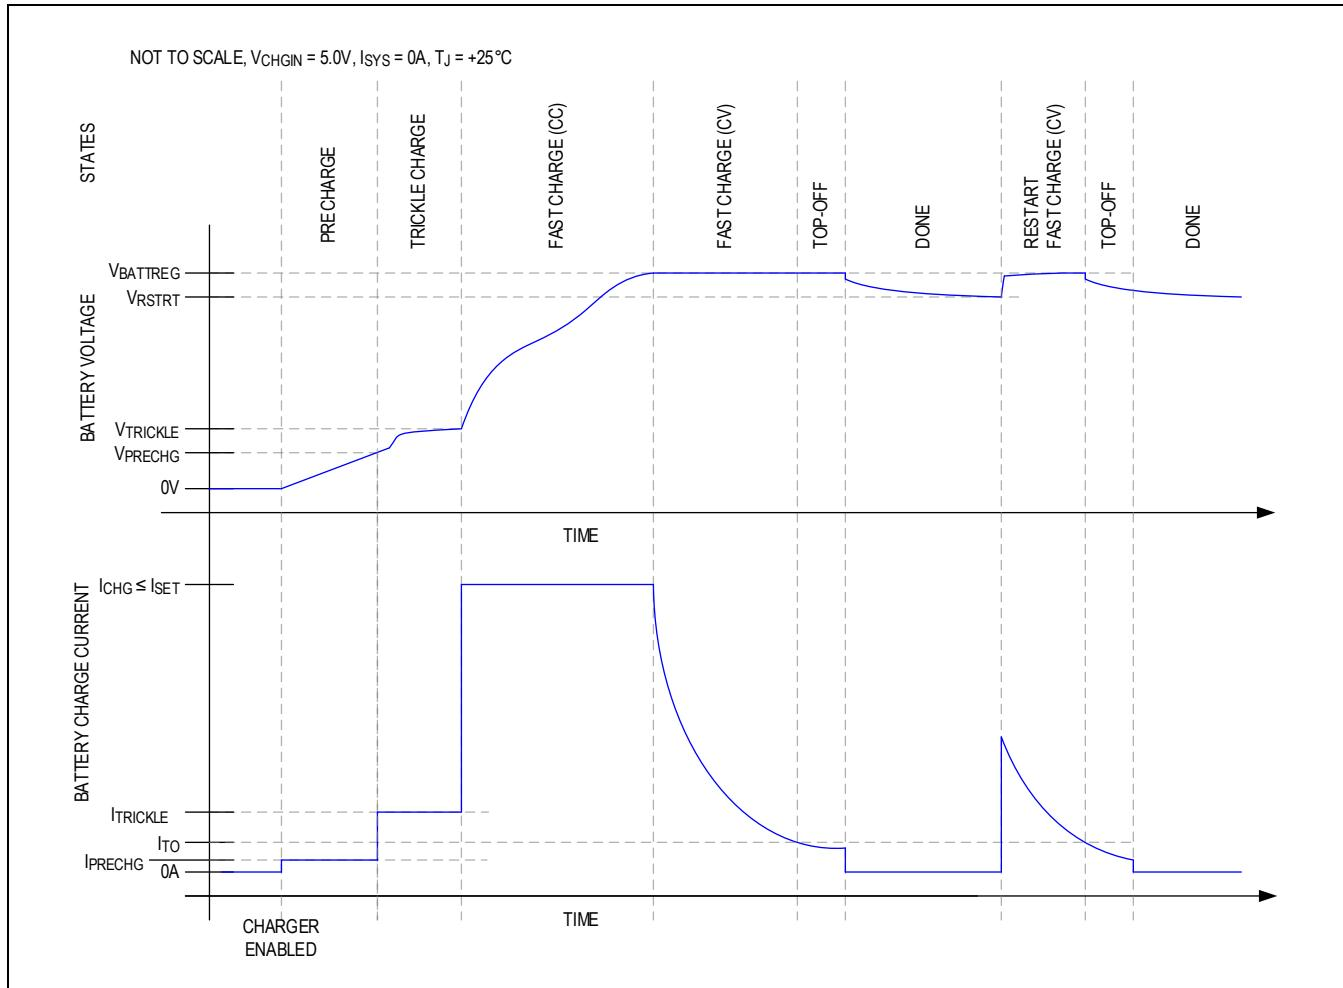
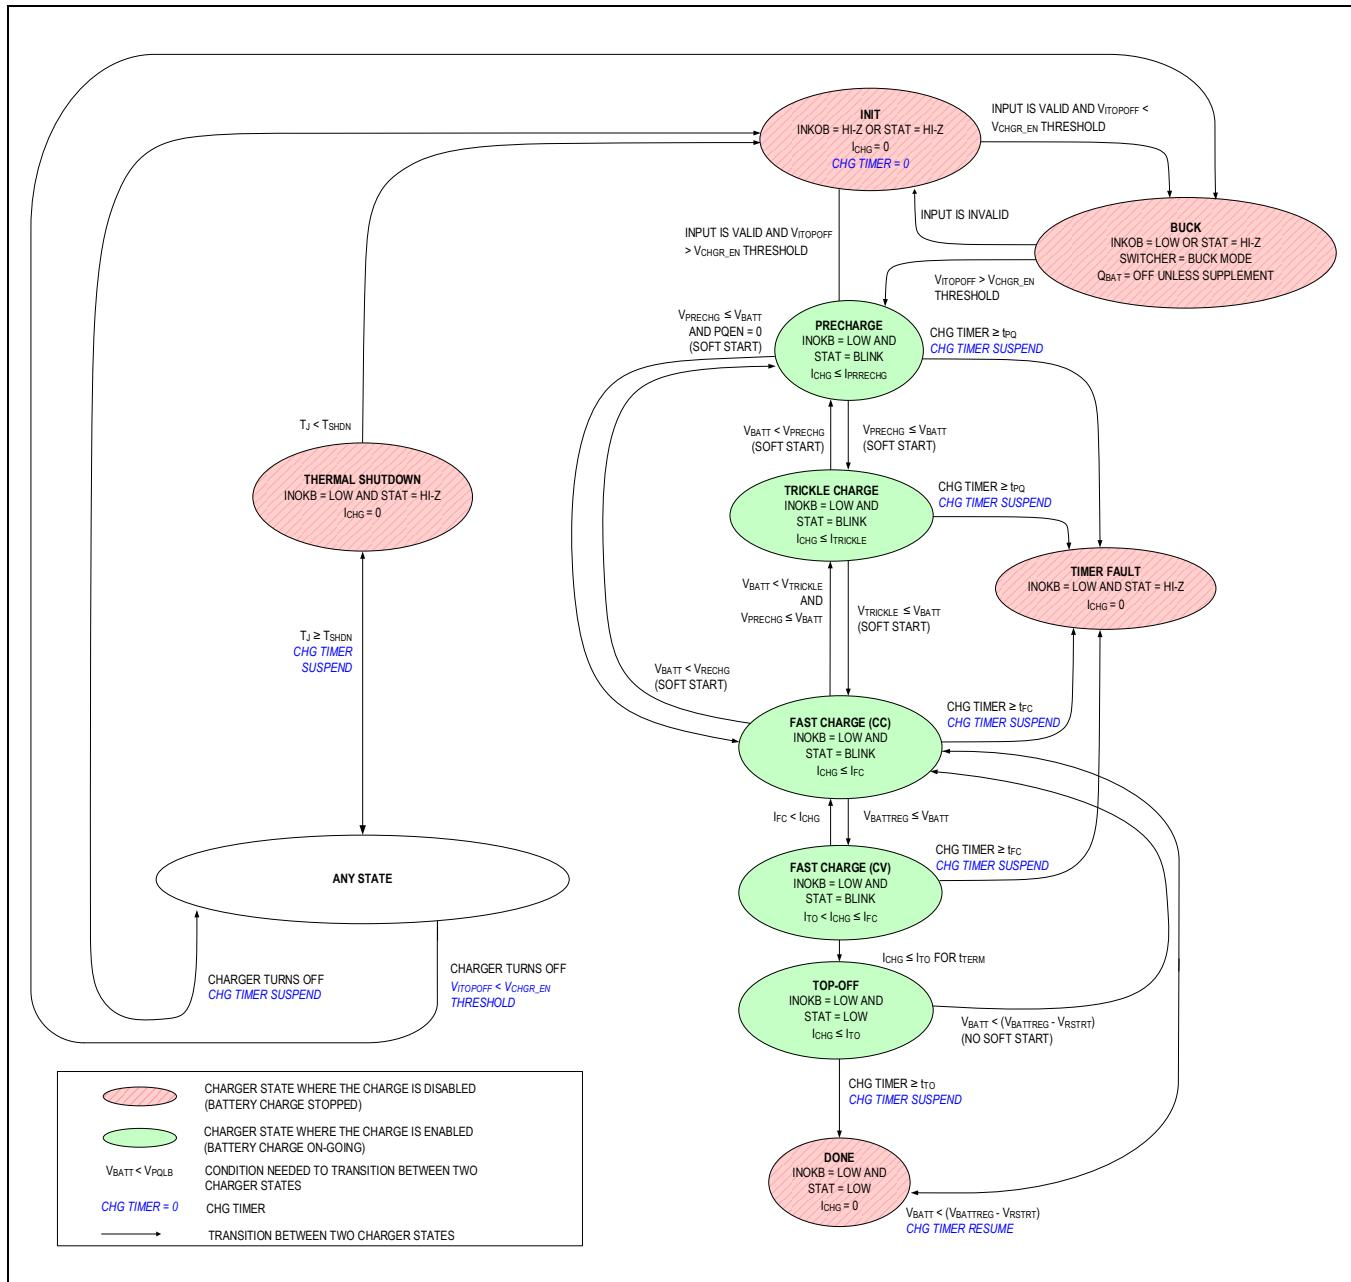

Figure 5. Li+/Li-Poly Charge Profile
Figure 6. Charger State Diagram
The MAX77789 utilizes several charging states to safely and quickly charge batteries, as shown in Figure 5 and Figure 6. Figure 5 shows an exaggerated view of the Li+/Li-Poly battery progressing through the following charge states when there is no system load and the die and battery are close to room temperature: precharge → trickle → fast-charge → top-off → done.
From any state shown in Figure 6 except thermal shutdown, the “INIT” state is entered whenever the charger inputs CHGIN is invalid, or the charger timer is suspended.
The chip has a state where battery charging is disabled, while the charger input CHGIN is valid. The state is called “buck” state. Entering or leaving the buck state is controlled by the EXTSM pin. If the voltage of this pin is pulled down by an external device (i.e., MCU) under V_{CHGR_EN} , the chip goes to the buck state from any state if CHGIN is valid, as shown in Figure 6. Charging is disabled in the “buck” state, which means QBAT is off unless it is in supplement mode. If the voltage of this pin is over V_{CHGR_EN} , the chip leaves the buck state, and resumes charging. It should be noted that charging can only be enabled or disabled when the CHGIN is valid. Therefore, the external device (i.e., MCU) should check the INOKB signal if CHGIN is valid before trying to enable or disable charging.
As shown in Figure 6, the precharge state occurs when the main battery voltage is less than V_{PRECHG} . In the precharge state, charge current into the battery is I_{PRECHG} .
As shown in Figure 6, the trickle charge state occurs when $V_{BATT} > V_{PRECHG}$ and $V_{BATT} < V_{TRICKLE}$.
As shown in Figure 6, the fast-charge constant current (CC) state occurs when the main-battery voltage is greater than the trickle threshold and less than the battery regulation threshold ($V_{TRICKLE} < V_{BATT} < V_{BATTREG}$).
As shown in Figure 6, the fast-charge constant voltage (CV) state occurs when the battery voltage rises to $V_{BATTREG}$ from the fast-charge CC state.
In the fast-charge CV state, the battery charger maintains $V_{BATTREG}$ across the battery and the charge current is less than or equal to I_{FC} . As shown in Figure 5, charger current decreases exponentially in this state as the battery becomes fully charged.
As shown in Figure 6, the top-off state can only be entered from the fast-charge CV state when the charger current decreases below I_{TO} for t_{TO} . In the top-off state, the battery charger tries to maintain $V_{BATTREG}$ across the battery and typically the charge current is less than or equal to I_{TO} .
As shown in Figure 6, the battery charger enters the done state after the charger has been in the top-off state for t_{TO} .
The battery charger provides a charge timer to ensure safe charging. As shown in Figure 6, the charge timer prevents the battery from charging indefinitely. The time that the charger is allowed to remain in each of the prequalification states is t_{PQ} . The time that the charger is allowed to remain in the fast-charge CC and CV states is t_{FC} . Finally, the time that the charger is in the top-off state is t_{TO} . Upon entering the timer fault state, STAT2 becomes Hi-Z.
In the timer fault state, the charger is off. The charger input can be removed and re-inserted to exit the timer fault state (See the “any state” bubble in the lower left of Figure 6).
As shown in Figure 6, the thermal shutdown state occurs when the battery charger is in any state and the junction temperature (T_J) exceeds the device’s thermal-shutdown threshold (T_{SHDN}). When T_J is close to REG , the charger folds back the input current limit to 0A so that the charger and inputs are effectively off.